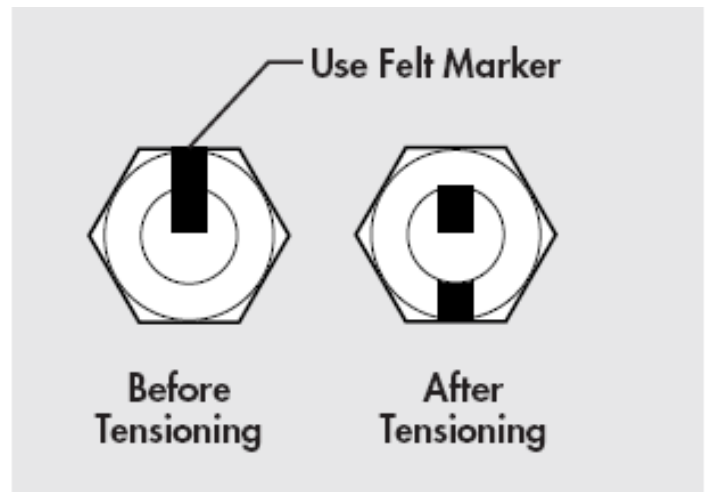

FIGURE 1-1B:
- **1/2 TURN (180°)** as shown in **Figure 1-1b, longer than 4 diameters** (“After Tensioning”)